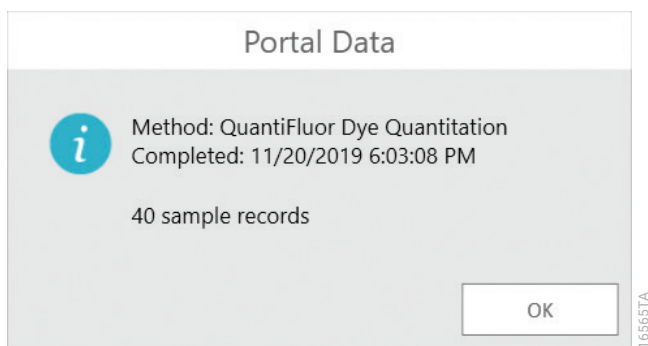

Figure 49. 'Portal Data' summary screen. The 'Portal Data' screen presents a summary of the data that was retrieved from the Portal software.
6. If the search is successful, a 'Portal Data' summary screen is shown indicating the method that was used to create the plate map, the date on which the method was completed and the number of samples on the plate (Figure 49). Tap the **OK** button to dismiss the 'Portal Data' screen